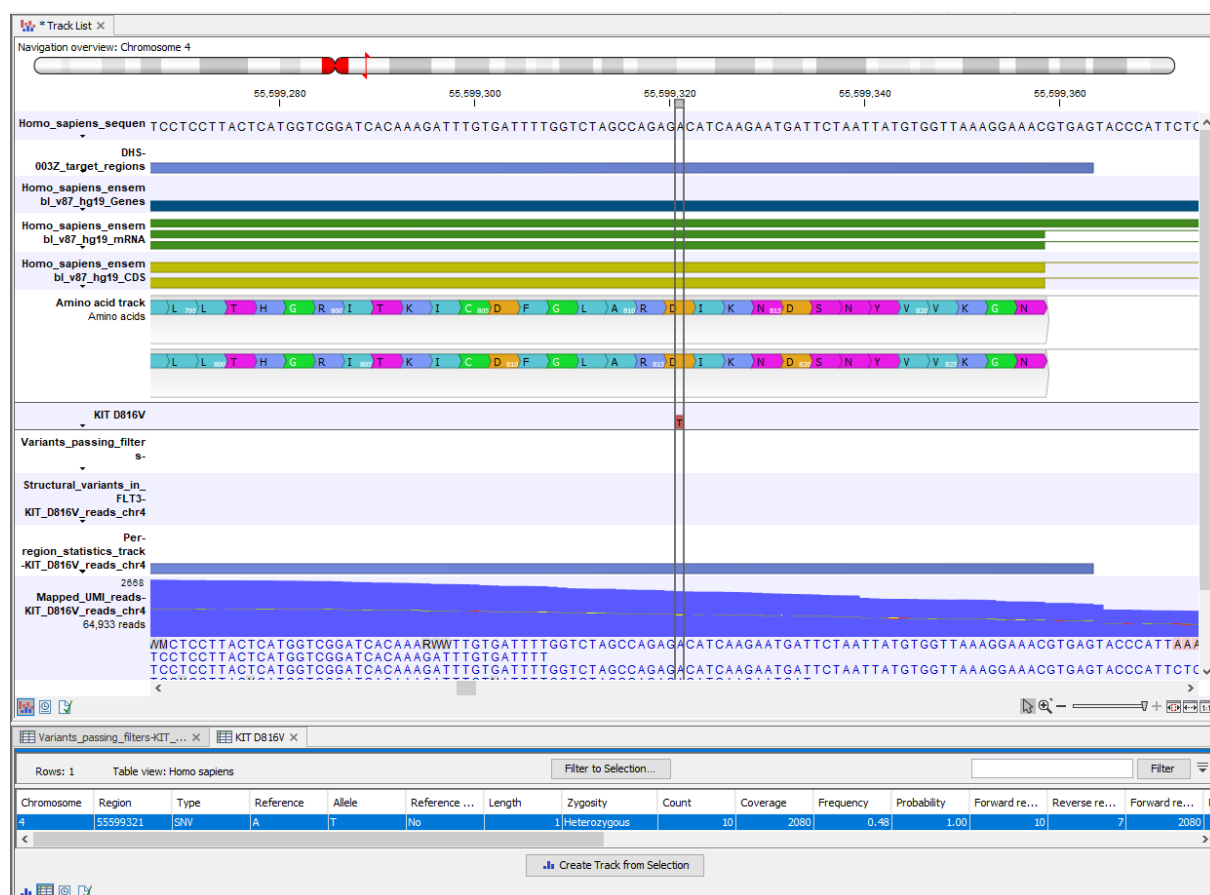

Figure 24: To view the KIT D816V variant together with the reference data and the mapped reads, drag the variant track into the Genome Browser view.
3. When the KIT D816V variant track has been added to the Genome Browser view, double-click on the name of the KIT D816V track in the left-hand side of the Genome Browser view to open the variant track. The variant track will open in table view below the Genome Browser view. As the two views are connected, clicking on the variant in the table view will automatically bring the KIT D816V variant into focus (see figure 24).